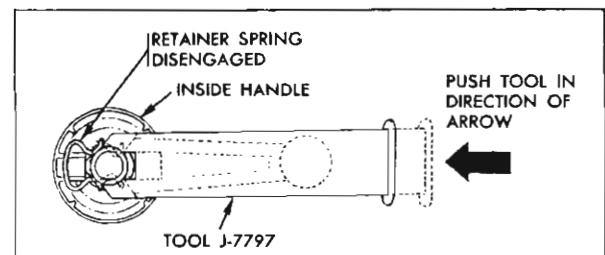

Fig. 12-1 Removing Retaining Spring
3. Push handle retaining spring out of engagement and remove handle and bearing plate from door (See Fig. 12-1).